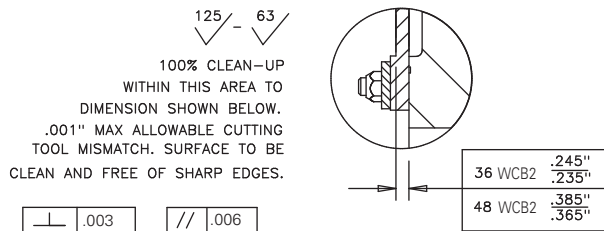

Figure 19
- 4.5.17 Machining of the wear surfaces is required for 36WCB2 and 48WCB2 tensioner/brake assemblies after replacement of the wear plates or the adjoining friction material. See Figure 19 for machining specifications. Clean all wear surfaces after machining to remove any residual contaminates.